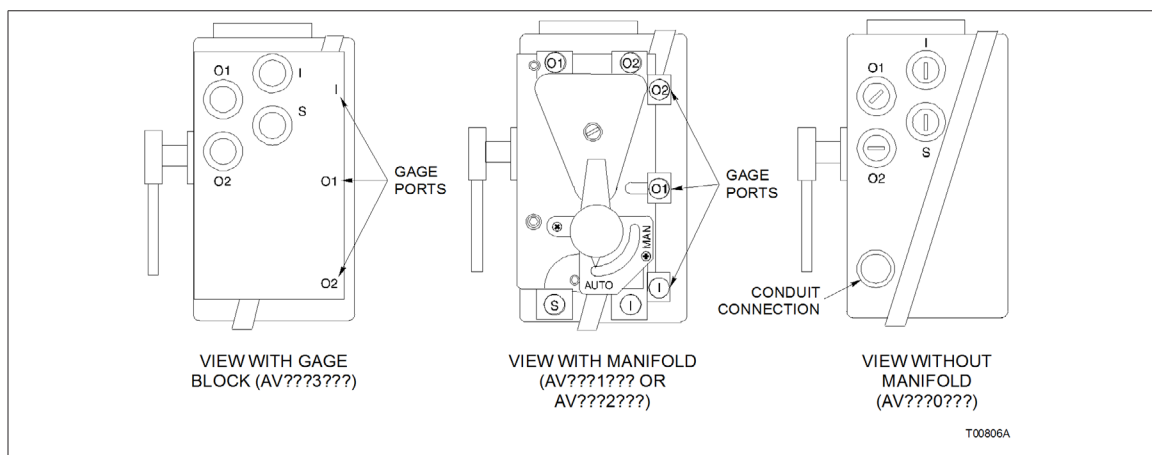

Figure 3-9. Port Locations
1. Connect the required air supply to connection S (Fig. 3-9).
2. Based on the positioner type, perform one of the following steps (Fig. 3-9):